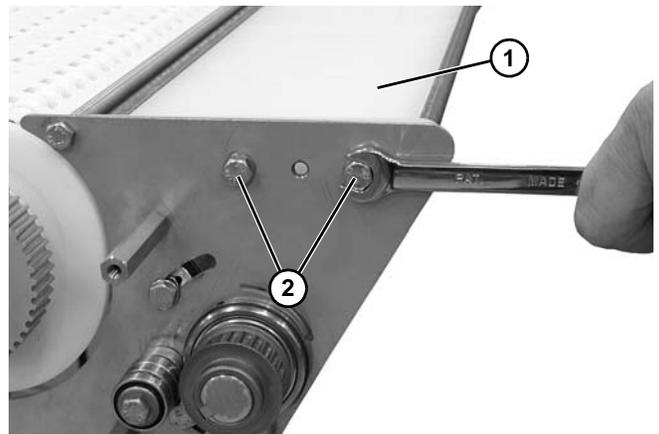

Figure 72
7. Install wear bar assembly (**Figure 72, item 1**) with two hex head screws (**Figure 72, item 2**) on both sides of the power transfer.